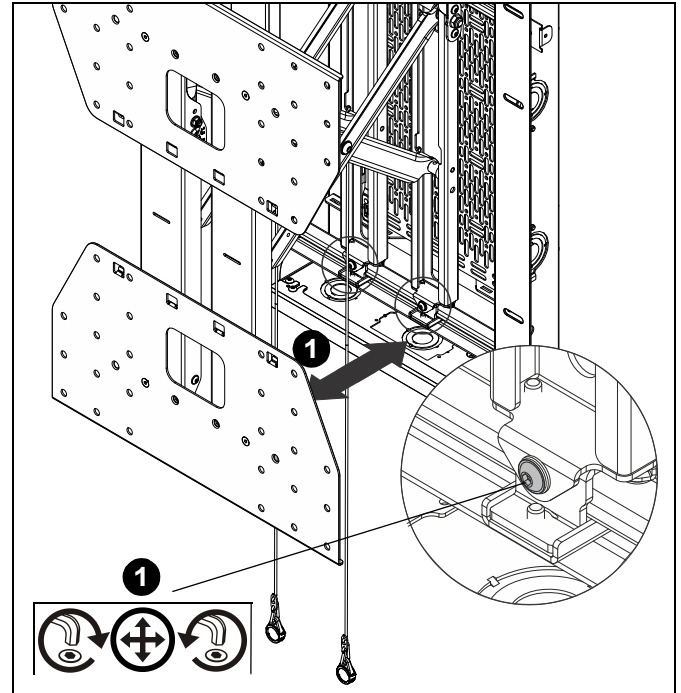
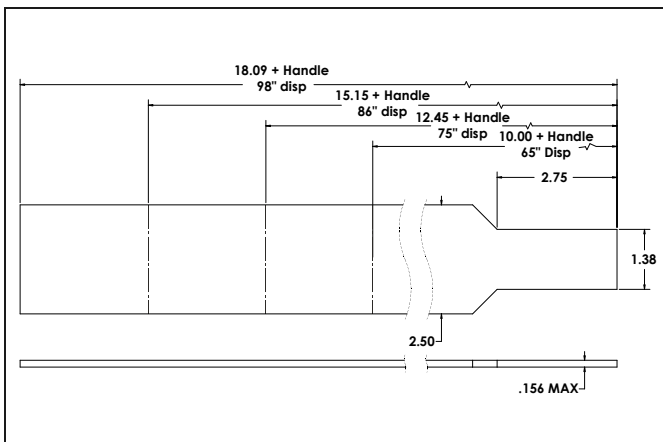

Figure 29
Figure 32
1. Adjust plumb adjustment screws to adjust plumb of each interface bracket (A and B). (See Figure 29)
1. Refer to the dimensions in Figure 29 or use template and table provided on page 20 to create a cardboard shim tool. (See Figure 32)